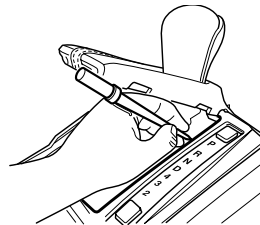

FIGURE 14
4. Using a narrow, pointed tool, press down on the mechanism under the cap so that you can move the shift lever (figure 14).